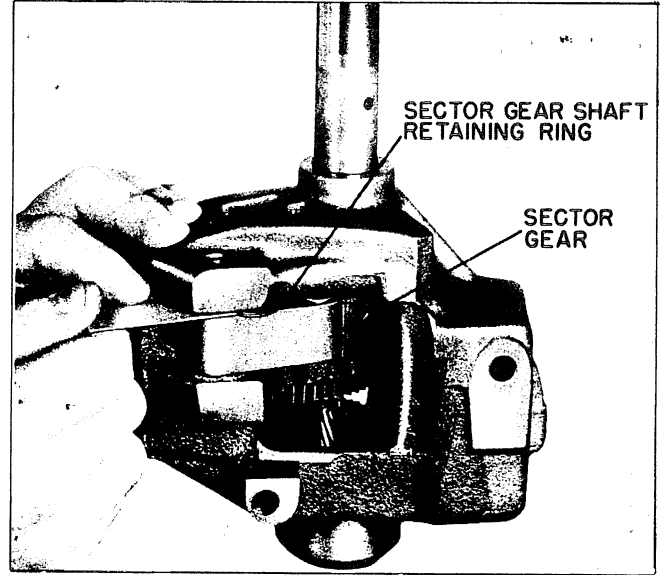
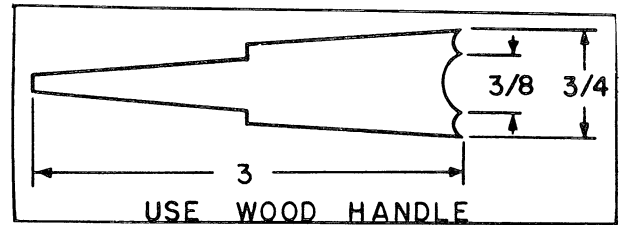

Figure 129
Figure 130
6. Remove the sector gear (WH5X22) by pushing out the retaining ring, *Figure 129*. A tool for doing this can easily be made up from 3/64" steel stock, *Figure 130*.